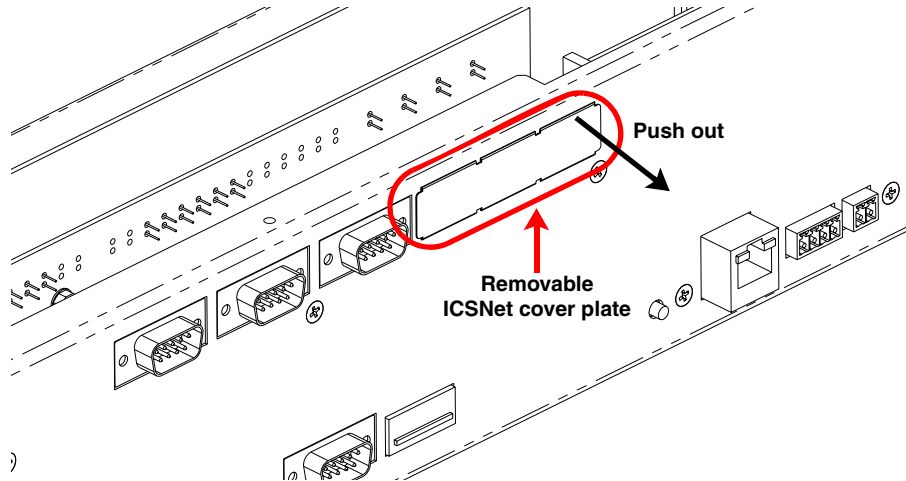

FIG. 13 ICSNet cover plate location
5. Push out the ICSNet cover plate from the inside of the unit. This action dislodges the cover plate and reveals the three ICSNet connector openings (FIG. 13).